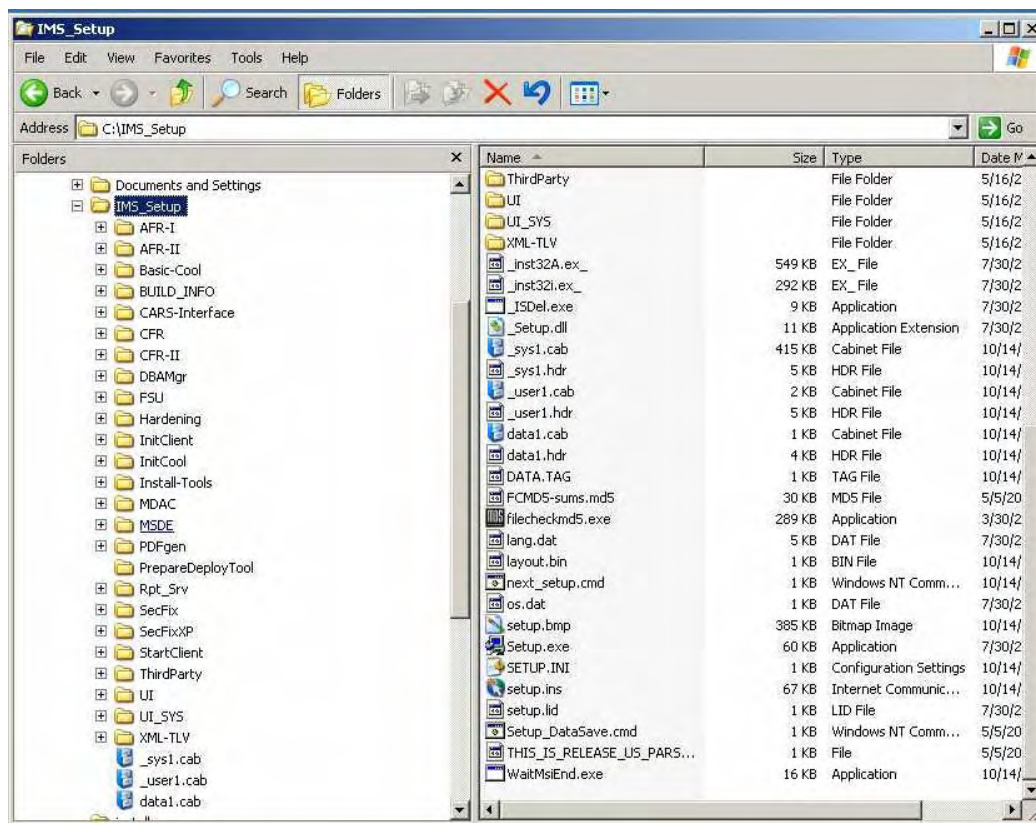

Figure 1-195. Filecheckmd5 Icon Selected
2. Open the **C:\IMS_Setup** folder (Figure 1-195).